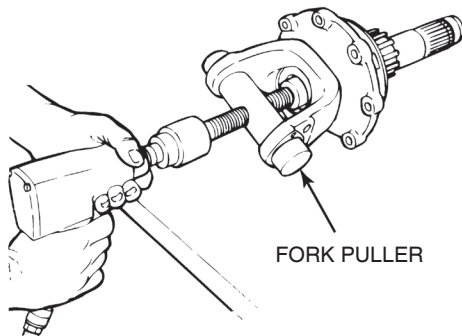
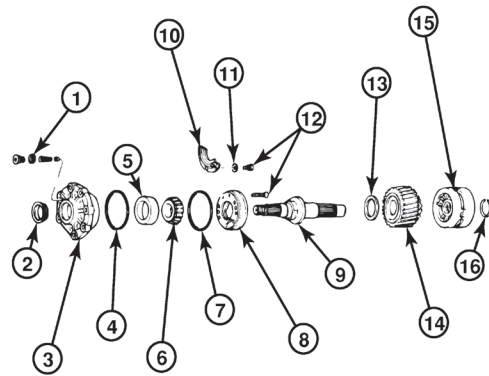

Figure 3.27
Figure 3.28
1. Use the correct tool to remove the fork or flange from the input shaft. Figure 3.27. If the differential assembly is not equipped with an oil pump, remove the bearing cage from the input shaft. Figure 3.28.